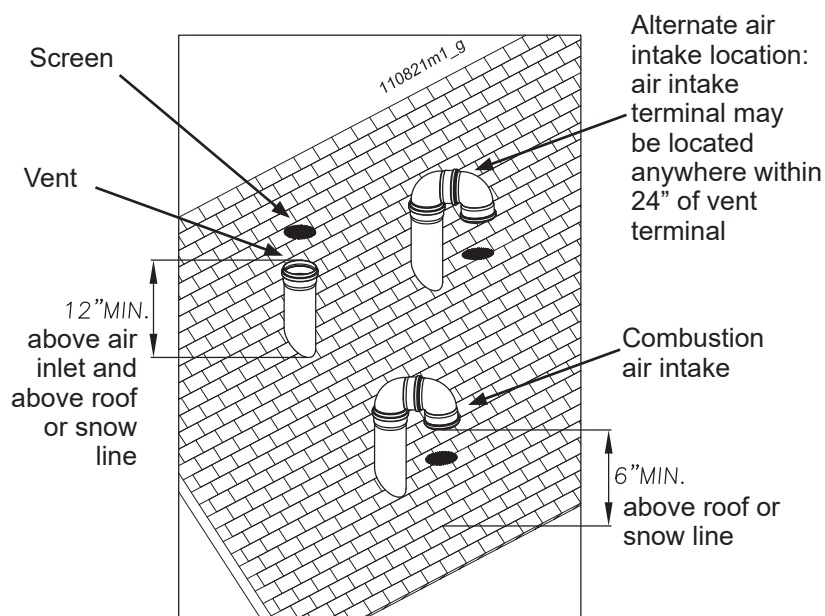

Figure 11-22 - Two pipes vertical terminations of air and vent
- 3.- Space the air and vent holes to provide the minimum spacing shown in Figure 11-22 and listed in Section 11.12.1;
- 1.- Prepare the vent termination and the air termination elbow (Figure 11-22) by inserting bird screens;
- 2.- The air piping must terminate in a down-turned 180° return bend as shown in Figure 11-22. Locate the air inlet pipe no further than 2 feet from the center of the vent pipe. This placement avoids recirculation of flue products into the combustion air stream;
- 3.- Maintain the required dimensions of the finished termination piping as shown in Figure 11-22;
- 4.- Do not extend exposed vent pipe outside of building more than shown in Figure 11-22. Condensate could freeze and block vent pipe.